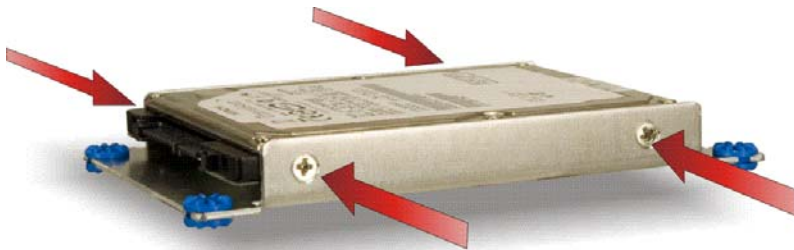

Figure 4-5: AF-12A-N270 HDD Retention Screws
- Step 4:** Attach the HDD brackets to the HDD. To do this, align the four retention screw holes in the both sides of the HDD bracket with the retention screw holes on the sides of the HDD. Insert four retention screws into the HDD bracket (Figure 4-5).